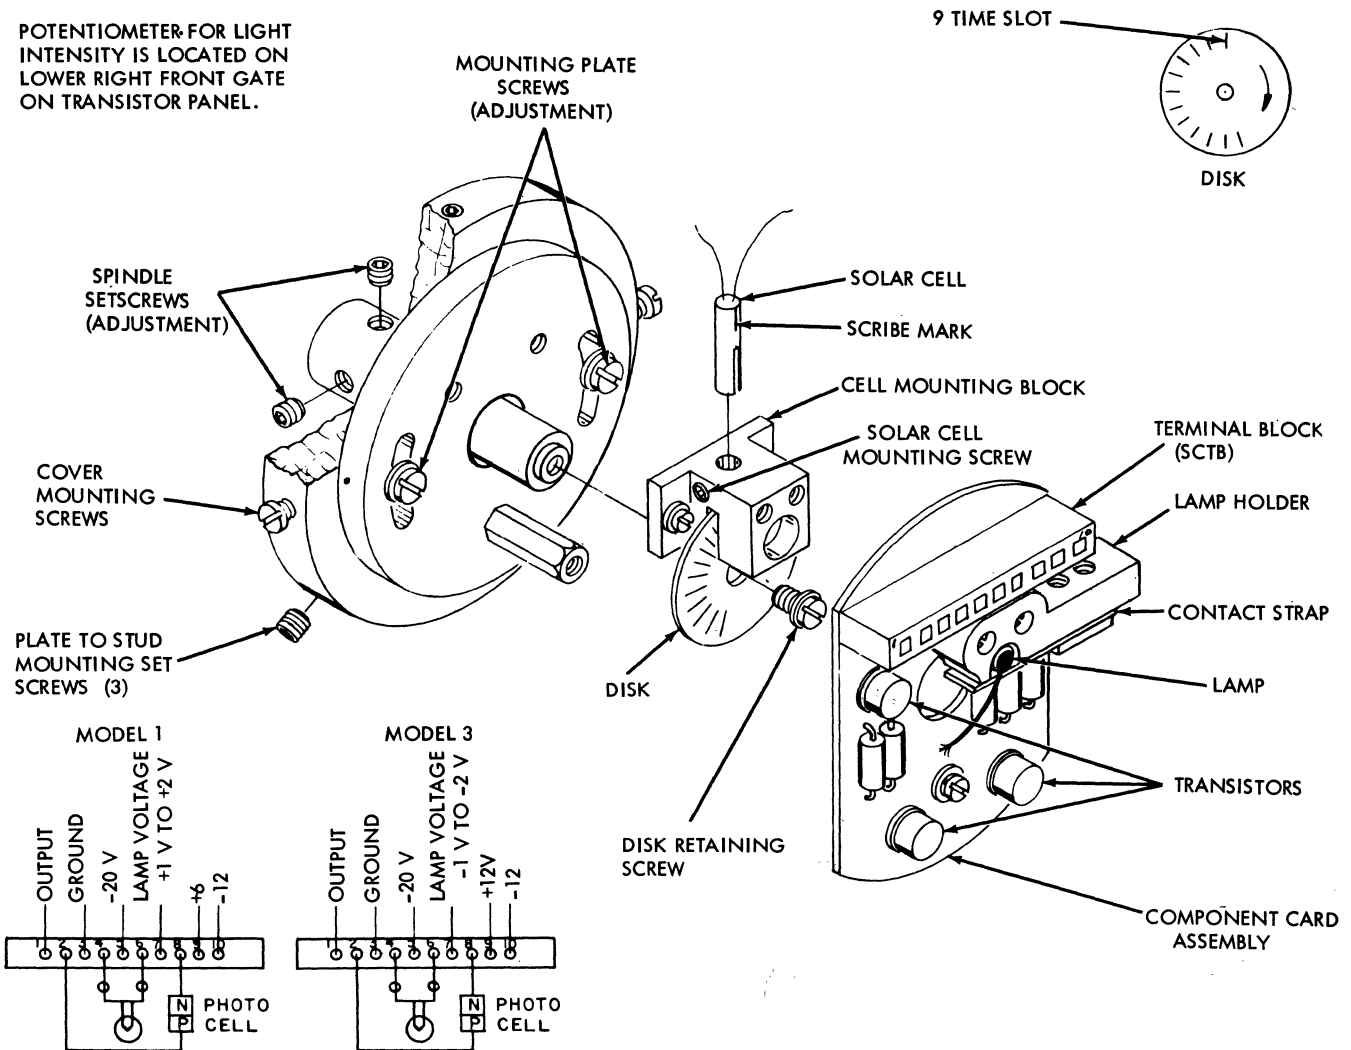

Figure 3-44. Solar Cell Adjustments
1. Control voltages from external supplies should be checked on SCTB 5, 6, 9 and 10. See Figure 3-44.
necessary by loosening set screws and repositioning spindle on picker knife camshaft. Refer to Figure 3-44.
8. With power removed, and reader cranked to 9-time, a basic timing can be obtained by loosening disk retaining screw and rotating the disk until 9-time slot is opposite the light source. Refer to Figure 3-44.
9. To adjust the timing of the cell accurately, loosen the mounting plate screws (Figure 3-44) and rotate the mounting plate within the mounting slots. Check make and break time of CB pulses
2. Loosen two contact strap screws until lamp can be slid out of lamp holder. Unplug lamp lead from SCTB 6 and remove. Refer to Figure 3-44.
2. Loosen set screw and remove solar cell assembly. Unplug solar cell leads from SCTB 2 and SCTB 8. Refer to Figure 3-44.
3. Reinstall solar cell assembly by inserting cell into cell mounting block and leaving approximately  $\frac{1}{8}$ " of the metal sleeve exposed above the cell mounting block. Position the scribed locating mark so that it points toward the light source. Refer to Figure 3-44.
4. Connect solar cell leads to meter. Check output by setting lamp terminal voltage at 1.8. At an index point, measure for a minimum of 150  $\mu$ a across the cell (see Step 7 in solar cell timing procedure). To avoid damaging cell, use care when tightening cell retaining set screw. Refer to Figure 3-44.